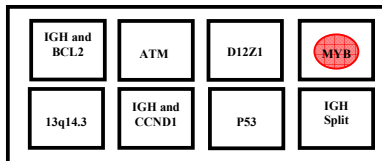

Figure 1. Location of probes on the CLL Panel
- i. Carefully invert the template slide over the device such that the number 1, which is now upside down, is located over the top right hand area of the device (Figure 1).